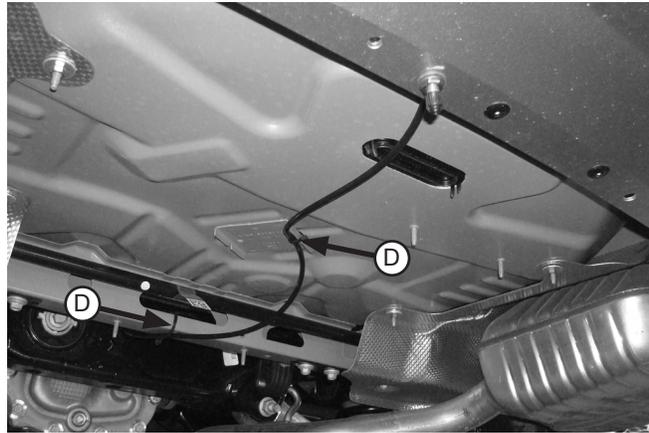

Fig. 7
10. Figure 7 shows an example of air line installation. A tee location was used above the crossmember and the air line was routed down the center under the floor pan, zip tied to an existing hole mid-way back, then continued back to a valve location using one of the existing holes in the bottom of the bumper cover.